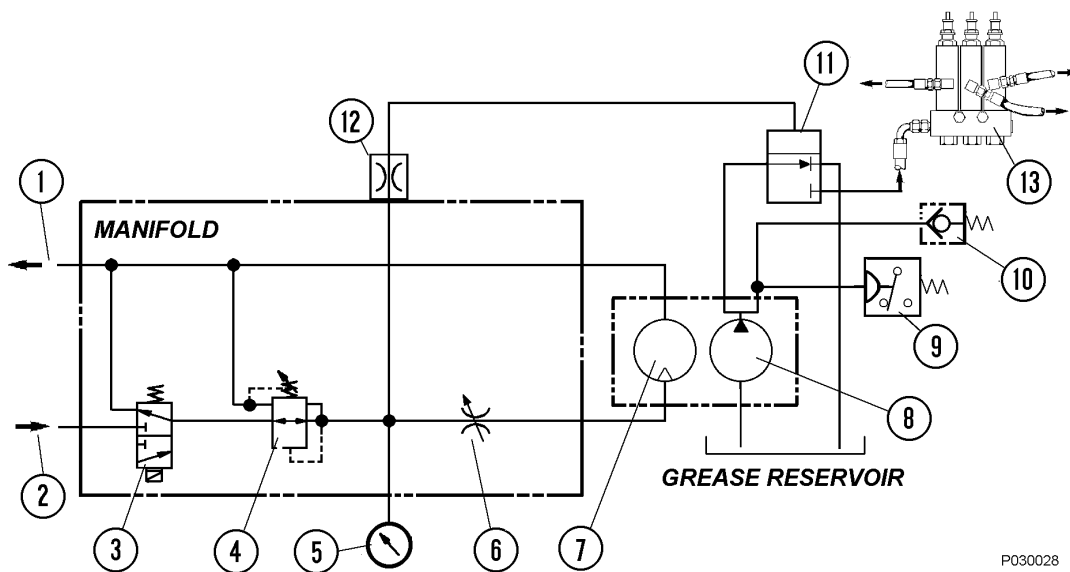

FIGURE 3-3. HYDRAULIC SCHEMATIC
Refer to Figure 3-3 & 3-4:
3. The hydraulic oil pressure from the steering circuit is reduced to 325 to 350 psi (2 240 to 2 413 kPa) by the pressure reducing valve (4, Figure 3-3) before entering the motor. In addition, the amount of oil supplied to the pump is limited by the flow control valve (6). Pump pressure can be read using the gauge (5) mounted on the manifold.
4. With oil flowing into the hydraulic motor, the grease pump will operate, pumping grease from the reservoir to the injectors (13), and to the vent valve (11) and the normally open pressure switch (9).